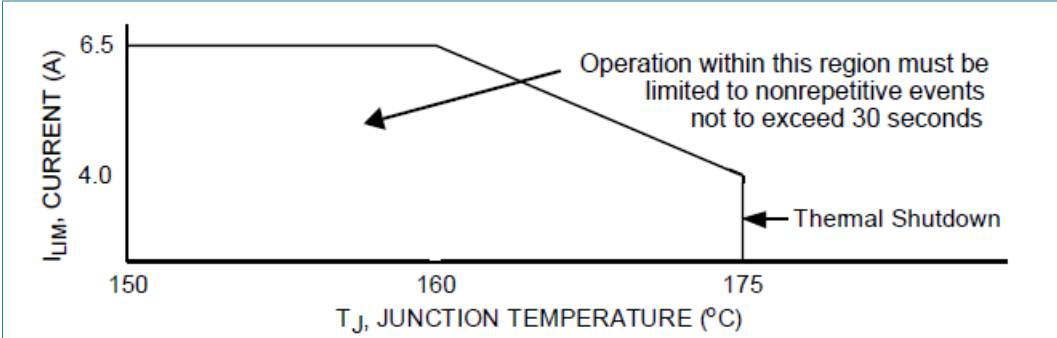
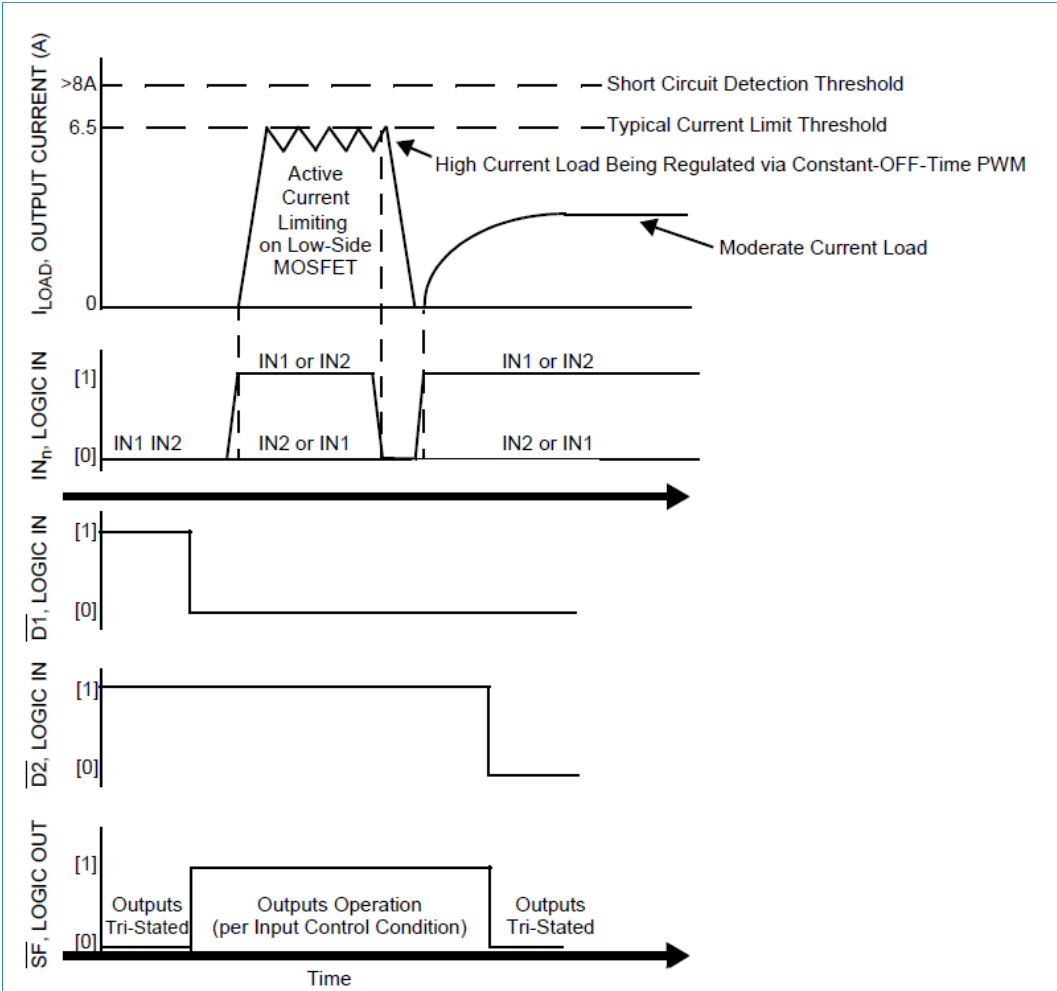

Figure 9. Active current limiting versus temperature (typical)
Figure 10. Operating states
- [5] Load currents ramping up to the current regulation threshold become limited at the I_{LIM} value. The short-circuit current possess a di/dt that ramps up to the I_{SCH} or I_{SCL} threshold during the I_{LIM} blanking time, registering as a short-circuit event detection and causing the shutdown circuitry to force the output into an immediate 3-state latch OFF. See Figure 10 and Figure 11. Operation in current limit mode may cause junction temperatures to rise. Junction temperatures above $\sim 160\text{ }^\circ\text{C}$ causes the output current limit threshold to progressively foldback, or decrease with temperature, until $\sim 175\text{ }^\circ\text{C}$ is reached, after which the T_{LIM} thermal latch OFF occurs. Permissible operation within this foldback region is limited to nonrepetitive transient events of duration not to exceed 30 seconds. See Figure 9.
The current limiting threshold value is dependent upon the device junction temperature. When $-40\text{ }^{\circ}\text{C} \leq T_J \leq 160\text{ }^{\circ}\text{C}$, I_{LIM} is between 5.2 A to 7.8 A. When T_J exceeds 160 °C, the I_{LIM} current decreases linearly down to 4.0 A typical at 175 °C. Above 175 °C the device overtemperature circuit detects T_{LIM} and overtemperature shutdown occurs (see Figure 9). This feature allows the device to remain operational for a longer time but at a regressing output performance level at junction temperatures above 160 °C.